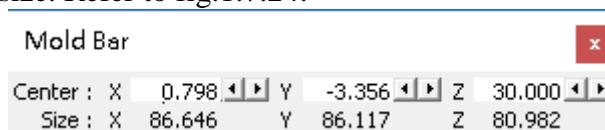

Fig. 1.7.24
Edit mold position and size. Refer to fig.1.7.24:
2. Click the four direction buttons (the red part of Fig.1.7.24) to move the XY Table.